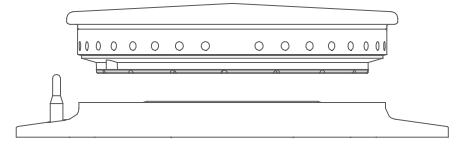

Figure 7 – Brass burner head and Bezel
- Remove brass burner head and aluminium bezel by lifting upward. (Figs 7,11).